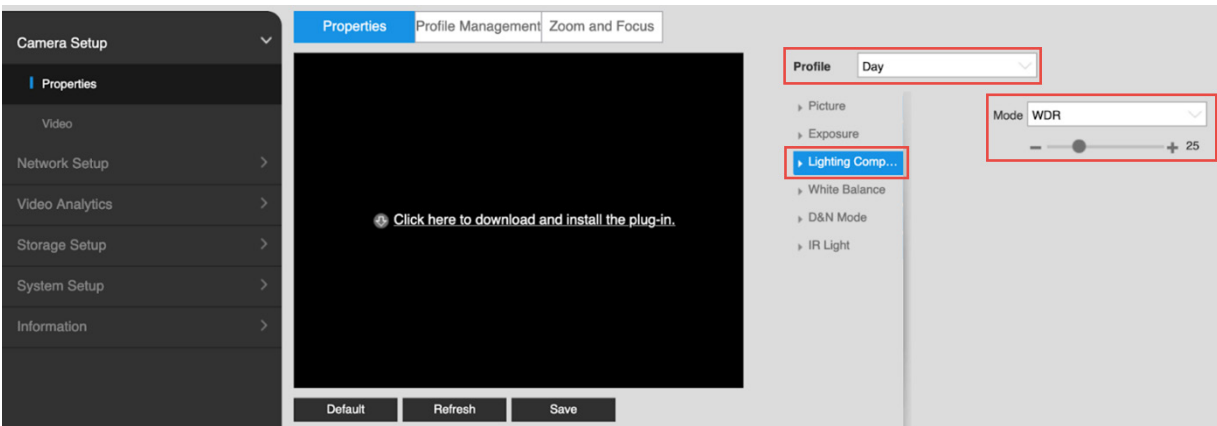

Fig. 4.15
- Adjust the slider bar beneath the field to 25. See Fig. 4.15